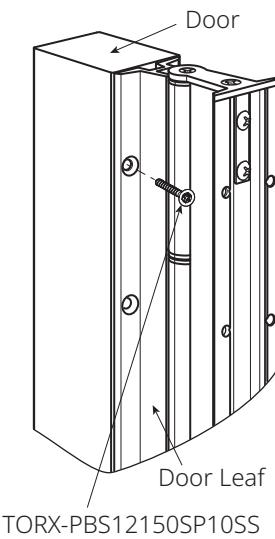

Fig. 4
1. Attaching hinge to door (Fig 4):
Install screws to attached hinge to door using T-25 driver (Fig. 4).